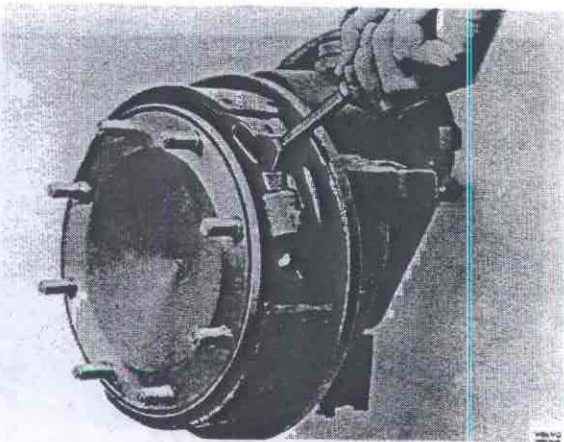

Fig. 51-5. Removing the brakes shoes
5. With a screwdriver or torque wrench lift the brake shoes out of their grooves in the cylinder housing, Fig. 51-5.